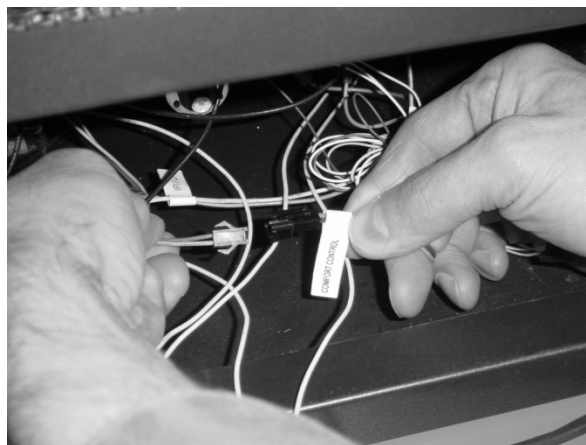

Figure 21
- 14 Attach the wiring harness to the comfort control valve connection (see Figure 21).